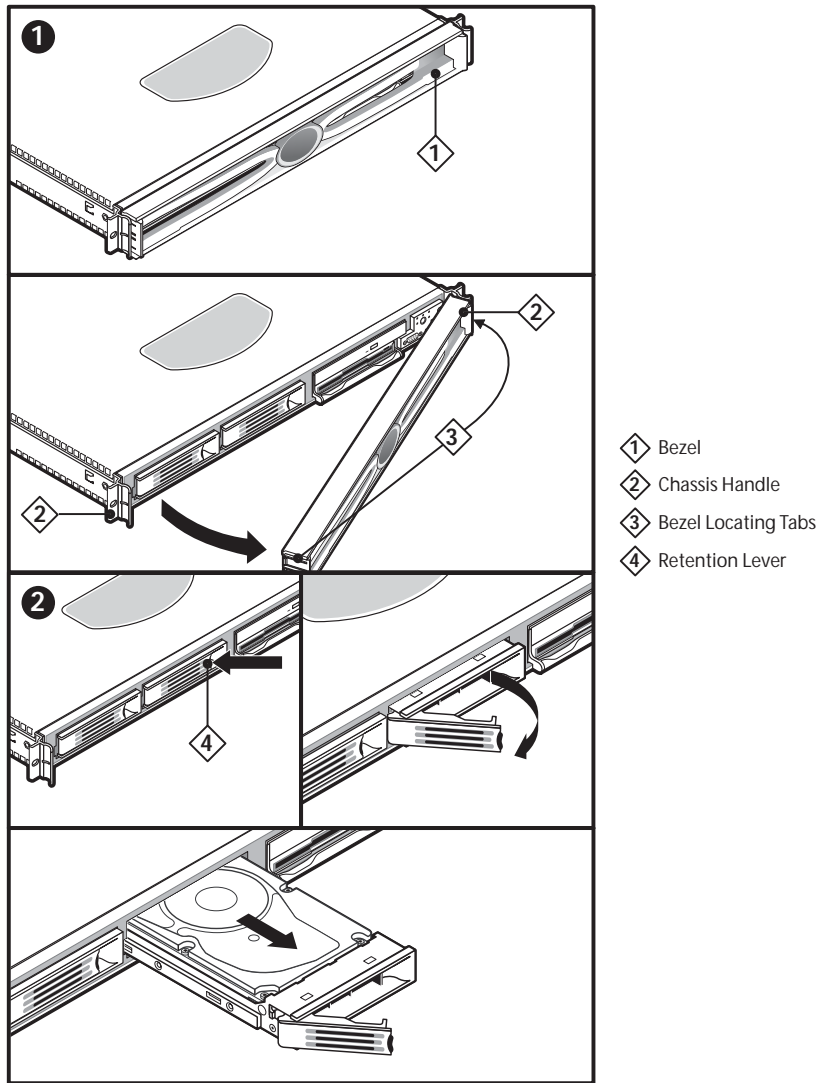

FIGURE 5-28 Removing a HDD Assembly From a Bay
Follow these steps to replace a hard disk drive while referring to Figure 5-28:
2. **Remove the bezel from the front of the chassis (see panel 1 of Figure 5-28).**
3. **As shown in panel 2 of Figure 5-28, push the green release tab in the retention lever and pull the HDD retention lever toward you until the tab end (left end) of the lever is free of the housing slot.**